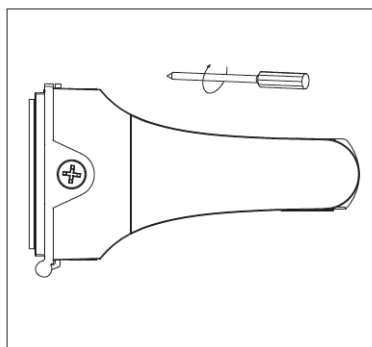
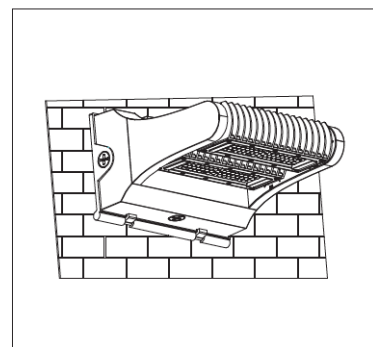

Figure 10
Figure 11
Step 7: Well organize the line and tighten the screws of the lamp base ( (Figure 10 & Figure 11) .